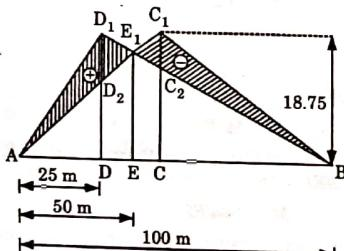

Fig. 16. ILD for  $M_D$ .
1. Fig. 16 shows influence line diagram for bending moment at quarter span  $D$ .